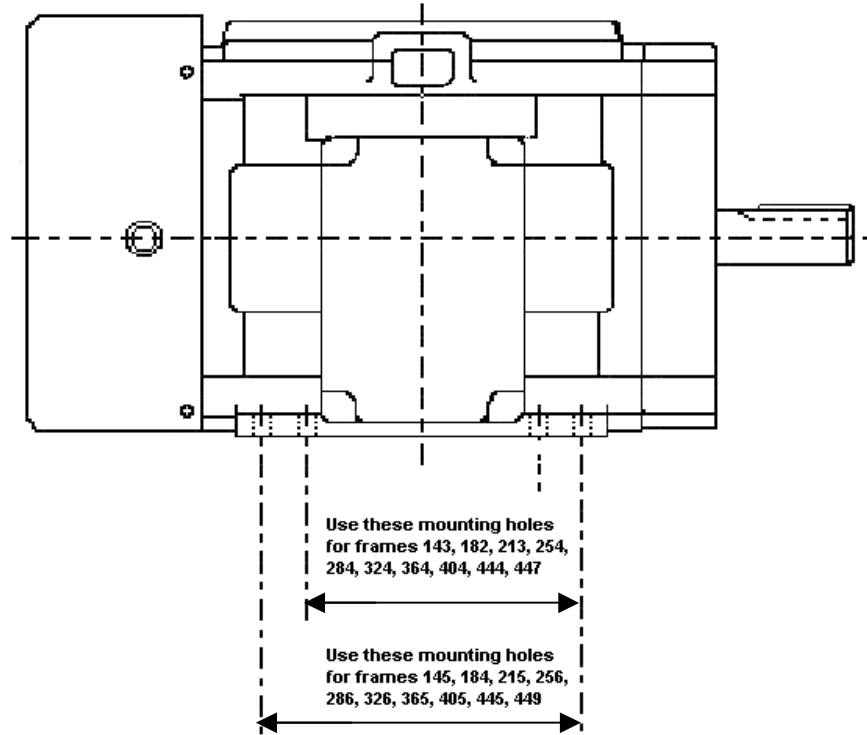

Figure 2A - Mounting
2. On motors with dual mounting holes use the holes indicated per **Figure 2A** and **2B**.